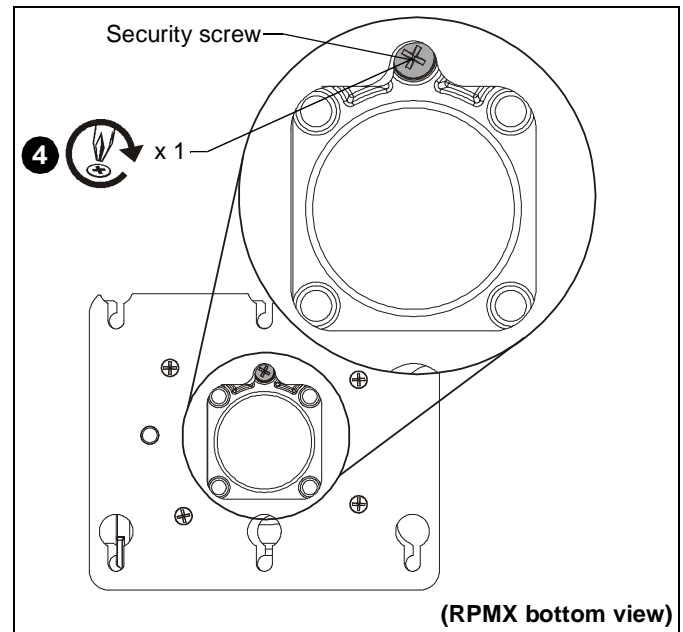
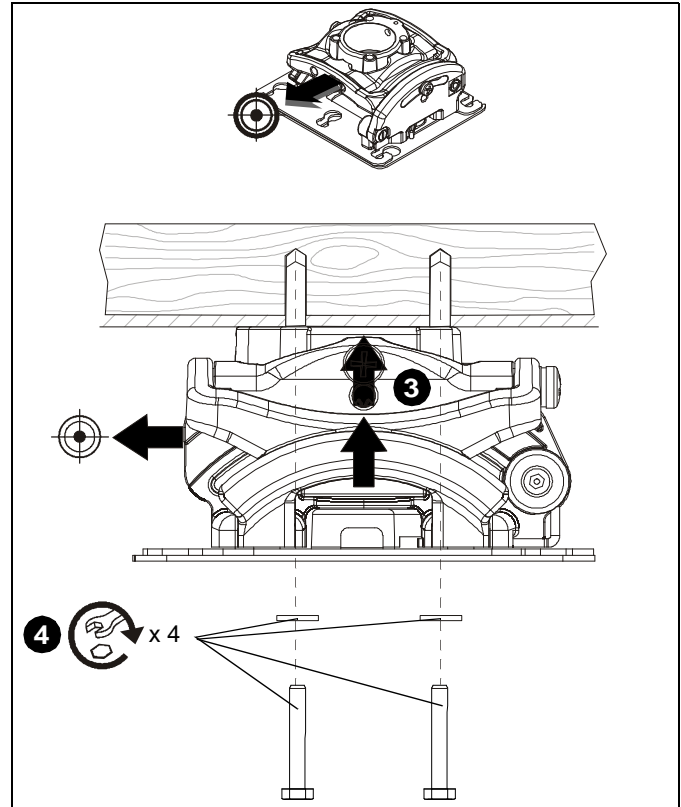

Figure 2
Figure 4
4. Turn security screw (access from bottom of RPMX) (See Figure 2) using a Phillips screwdriver until set screw cannot be seen through set screw access hole in RPMX. (See Figure 4)
4. Secure RPMX to structure using four 1/4" x 3" Grade 2 lag bolts (not included) and four 1/4" Grade 2 flat washers (not included). (See Figure 4)